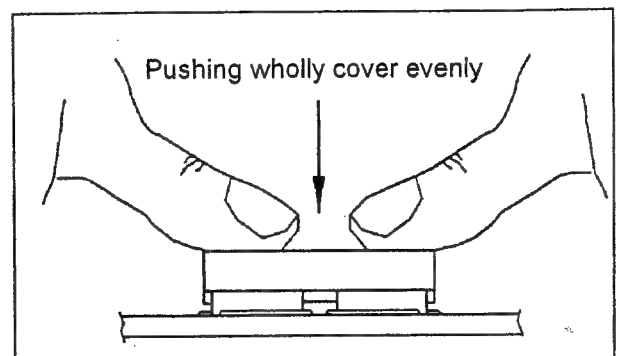

Fig. 3
3. Press the PROM Socket Cover pushing the wholly cover evenly as shown in figure 3.